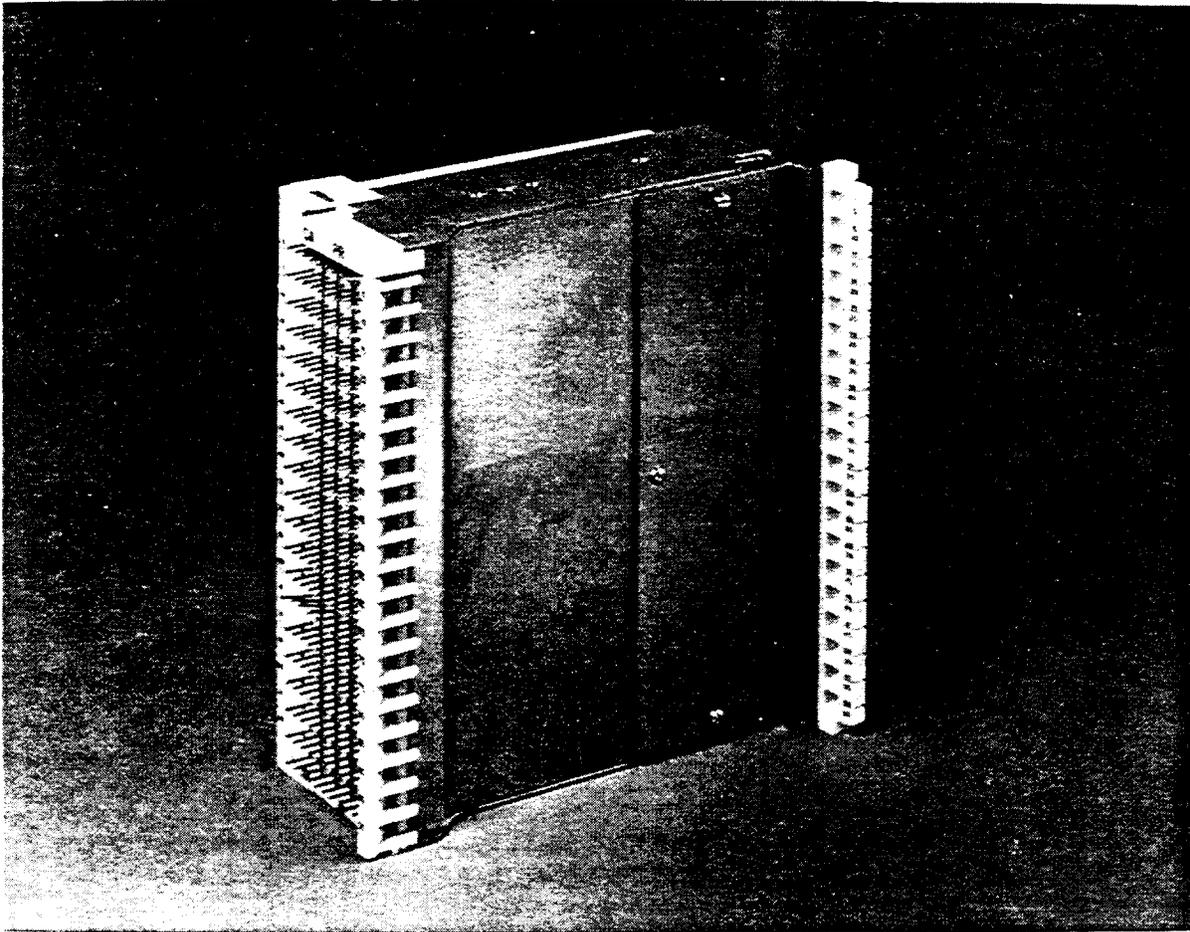

Figure 28. Right Side View 310L UL Listed Connector
7.04 As in other Building Entrance Protector designs, the loose fusible length conductors are encased with a metal side cover (Figure 28) to form a fusing chamber and prevent any arcing or fusing activity from affecting adjacent equipment or terminations.